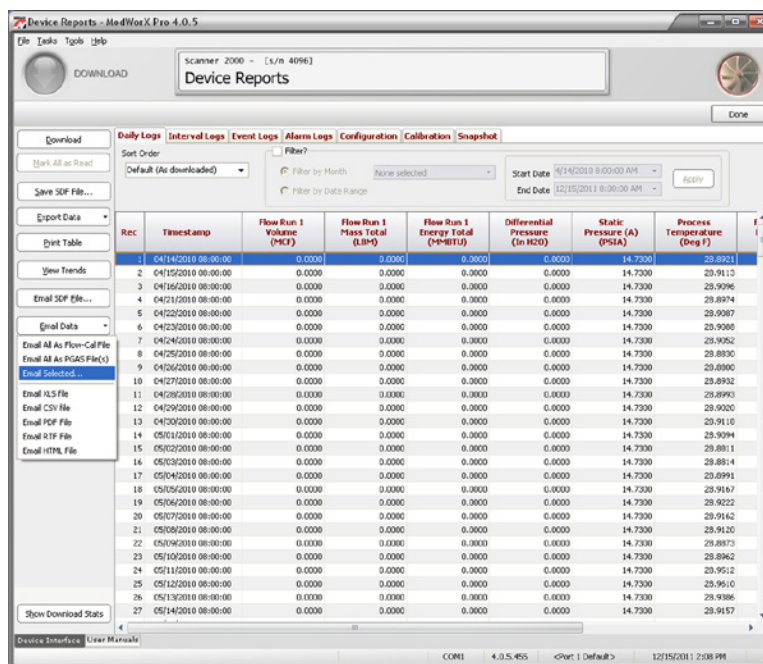

Figure 14.30
- Click the **Email Data** button at the left of the screen and select **Email Selected** from the dropdown list (Figure 14.30, page 200).